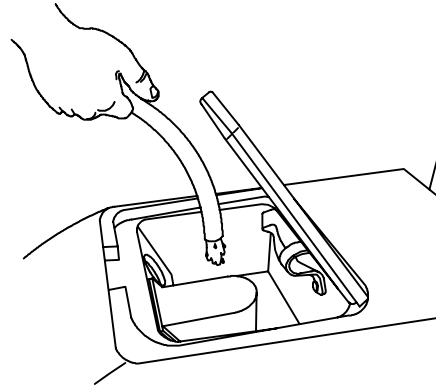

FIG. 31
- Pour up to 23L (6 gal) of clean water, 60° C (140° F) maximum temperature, into recovery tank when filling solution tank (Figure 31).